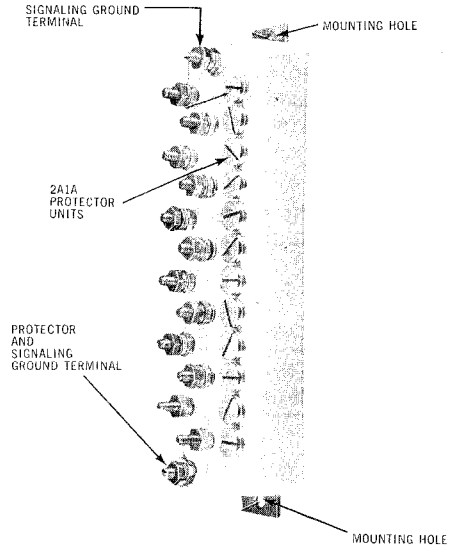

Fig. 4 - 117B Protector (Indoor)
2.05 *117B Fuseless Protector*, (Fig. 4) signaling ground terminals are located at each end of the terminal block. One of these terminals is arranged to permit installation of a No. 10 gauge wire for protector grounding purposes.